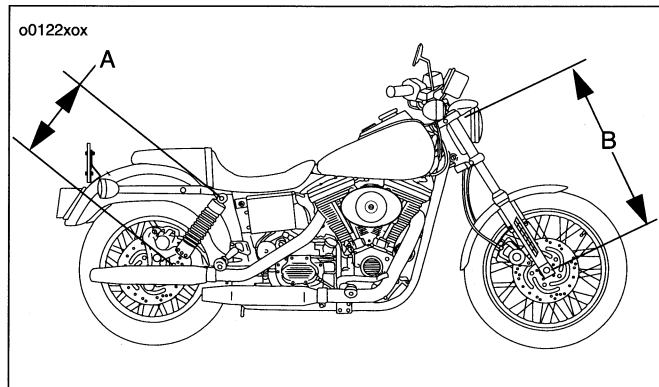

Figure 24. Preload Measurement
3. See Figure 24. At the rear shock, measure the distance A, from the upper shock bolt center to the lower shock bolt center.